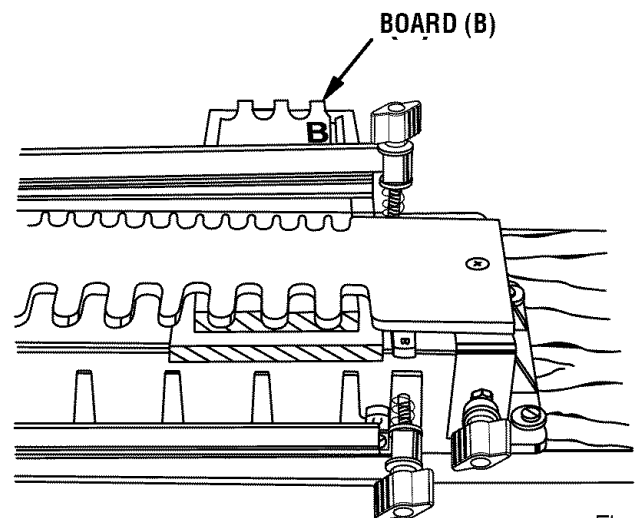

Fig. 38
To rout the other side of your rabbeted front drawer, repeat the above procedure with boards (C) and (B) positioned against the right stops. See Figure 38. To rout dovetail cuts in board (D) and boards (A and C) follow the instructions for making a “flush front drawer or box” on pages 10 and 11.